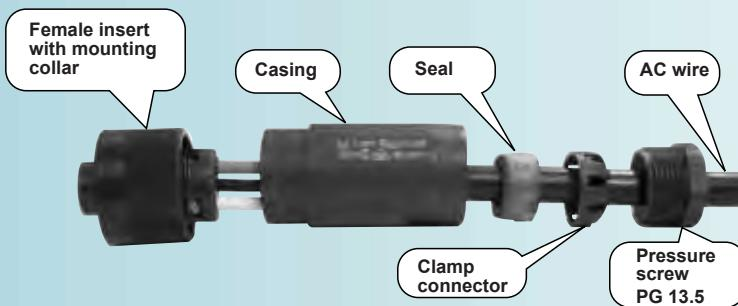
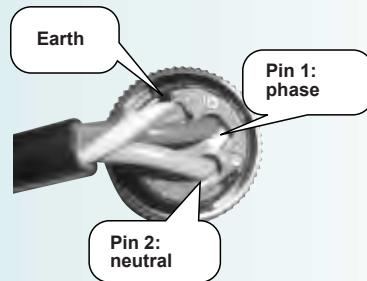

Fig. 9
Fig. 10
- Connect the cables as follows (**Fig. 9** and **Fig. 10**):